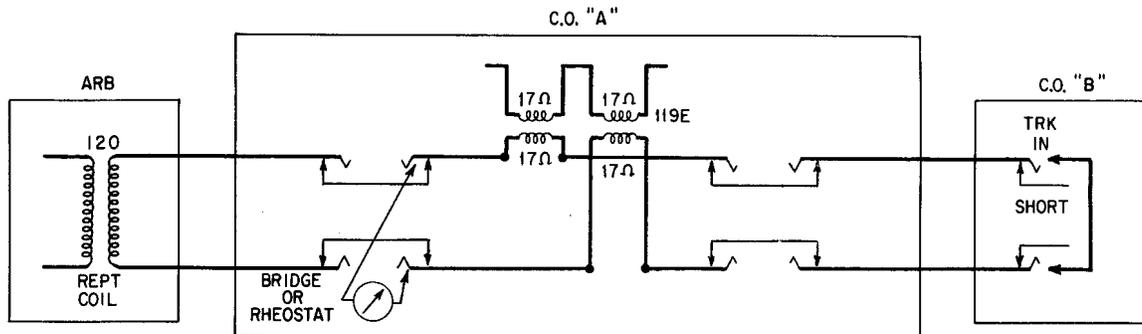

Fig. 2 — Measurement of Backbone Route DC Resistance
3.02 The resistance of the backbone route trunk pairs should also be measured with a bridge or rheostat and the values recorded. The over-all resistance of the backbone route should be measured from the most remote central office to the control office as well as from ARB headquarters to the control office. If the route branches off to other central offices, the resistance should be measured from each office on the branch to the control office. Fig. 2 shows the setup for measuring the trunk resistance where C.O. "A" is the control office. The trunk resistance measured by the procedure below includes the resistance of the 119E coils. All resistance measurements should be recorded for future reference.